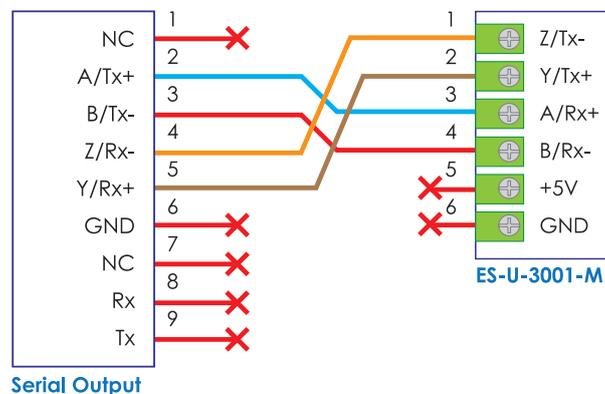

Figure 14. The connection pinout of RS485 Serial Output with ES-U-3001-M converter in RS485 mode
- 7. The connection wiring pinout of the control box RS485 serial output is illustrated in Figure 14.